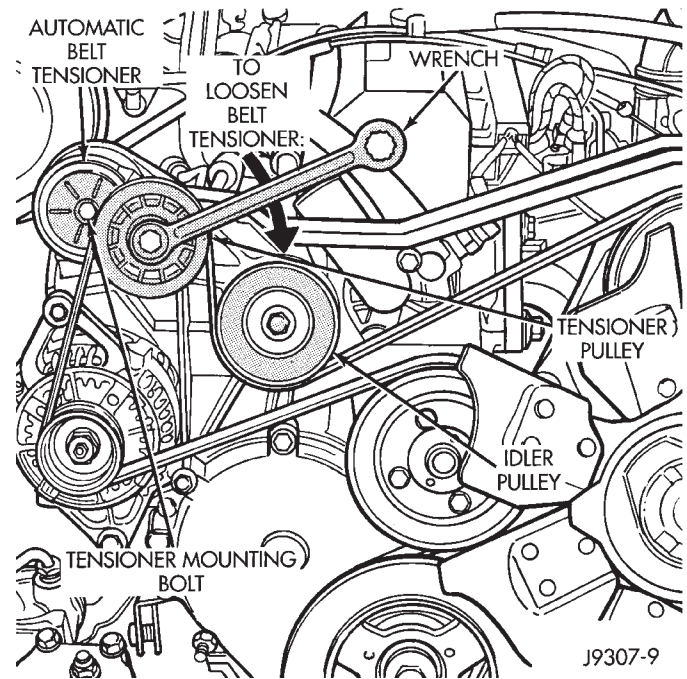

Fig. 10 Automatic Belt Tensioner—4.0L 6-Cylinder Engine With RHD
The drive belt is equipped with a spring loaded automatic belt tensioner (Fig. 10). This belt tensioner will be used with all belt configurations such as with or without air conditioning.
(1) Attach a socket/wrench to the mounting bolt of the automatic tensioner pulley (Fig. 10).
(2) Rotate the tensioner assembly clockwise (as viewed from front) until tension has been relieved from belt.
(3) Remove belt from idler pulley (Fig. 10) first. Remove belt from automatic tensioner.
(4) Remove tensioner mounting bolt (Fig. 10) from tensioner bracket. Remove tensioner from vehicle. Note alignment pin on the back of tensioner.
(1) Install pulley and pulley bolt to tensioner. Tighten bolt to 90 N·m (65 ft. lbs.) torque.
(2) Install tensioner assembly to mounting bracket. An alignment pin is located on the back of tensioner. Align this pin to the slotted hole in the mounting bracket. Install mounting bolt and tighten to 41 N·m (30 ft. lbs.) torque. If automatic tensioner bracket-to-generator mounting bracket bolts were removed, tighten to 27 N·m (20 ft. lbs.) torque.
(3) Position the drive belt over all pulleys **except** the idler pulley (Fig. 10).
(4) Attach a socket/wrench to the pulley mounting bolt of the automatic tensioner (Fig. 10).
(5) Rotate the socket/wrench clockwise (Fig. 10). Place the belt over the idler pulley. Let tensioner rotate back into place. Remove wrench. Be sure belt is properly seated on all pulleys.